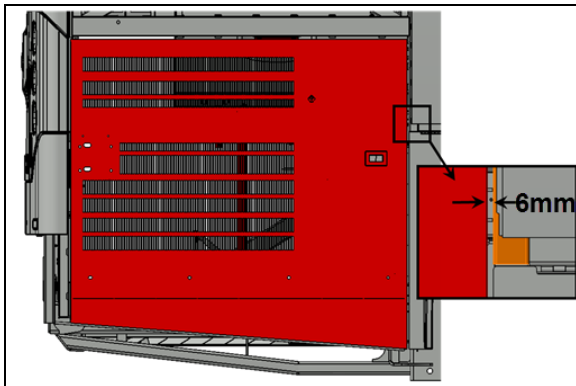

FIGURE 114
5. Check the gap between the door and the adjacent panel at the level of the upper attachment point of the arm on the door. The gap should be $1/4"$ (6 mm) (FIGURE 114).